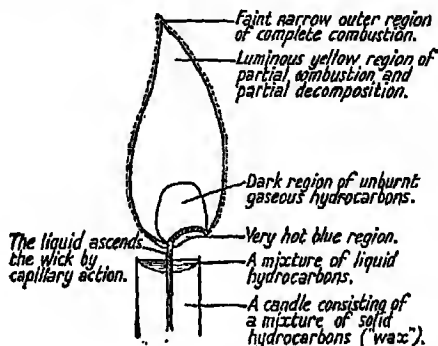

FIG. 110. The candle flame.
**Expt. 152.** Examine the flame of a candle. Compare what you see with Fig. 110. Distinguish the following regions:
- (1) a dark region above the wick,
- (2) a large yellow luminous region above and at the sides of the dark region,
- (3) a very faint narrow region surrounding the yellow region,
(4) a blue region below the wick.